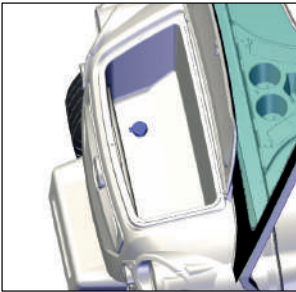

Figure 12-7 Washer fluid tank position
- Locate the washer fluid tank cover (see Figure 12-7).